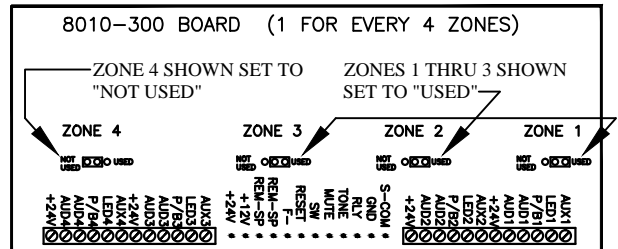

FIGURE 2 - 8010-300 BOARD
3. SET "USED / NOT-USED" ZONE JUMPERS (SEE FIGURE 2)